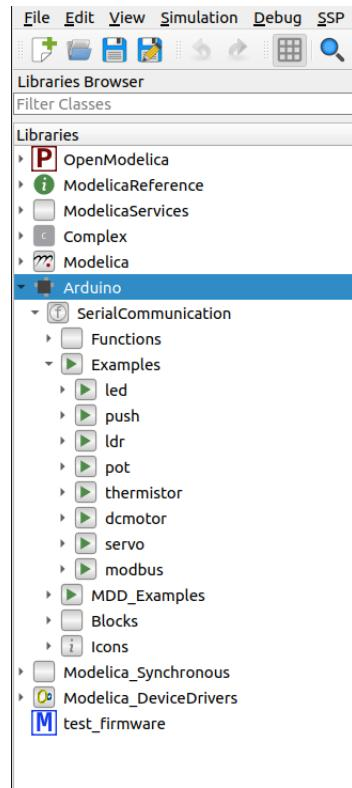

Figure 3.44: Examples provided in OpenModelica-Arduino toolbox
5. Now, we will locate the models for running the experiments in the upcoming chapters. Under Libraries Browser, click on the arrow before Arduino to see the contents inside this package. Next go to SerialCommunication -> Examples. Under Examples, you will find the list of experiments like led, push, etc., as shown in Fig. 3.44.